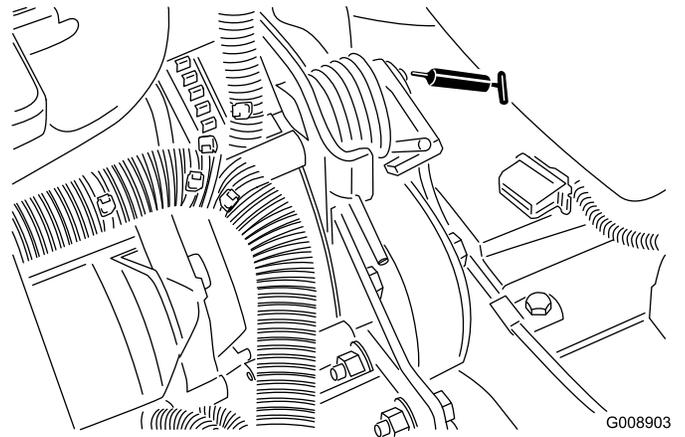

Figure 37
- Belt-tension pivot (Figure 37)